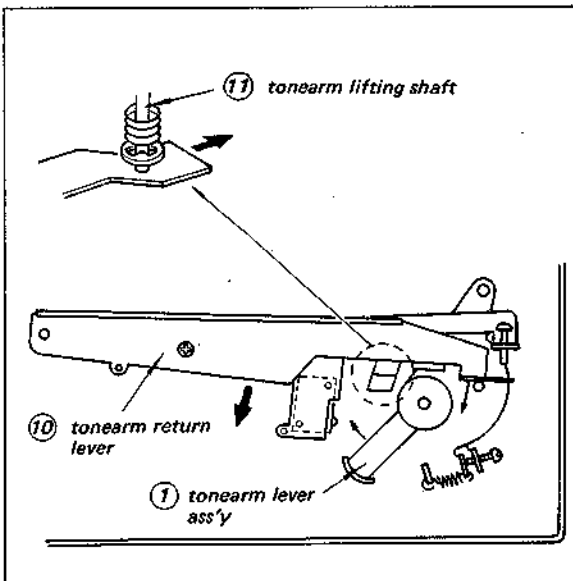

Fig. 1-7. Tonearm return lever movement (1)
As the main cam (8) rotates, it moves the tonearm return lever (10), causing the tonearm lever ass'y (1) to pivot and to raise the tonearm lifting shaft (11) as shown in Fig. 1-7.